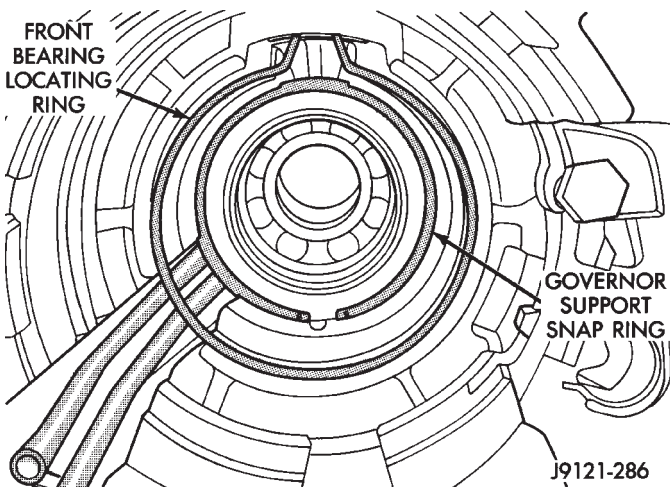

Fig. 12 Front Bearing Locating Ring And Governor Support Snap Ring Location
- (12) Remove output shaft front bearing locating ring and governor support snap ring (Fig. 12).